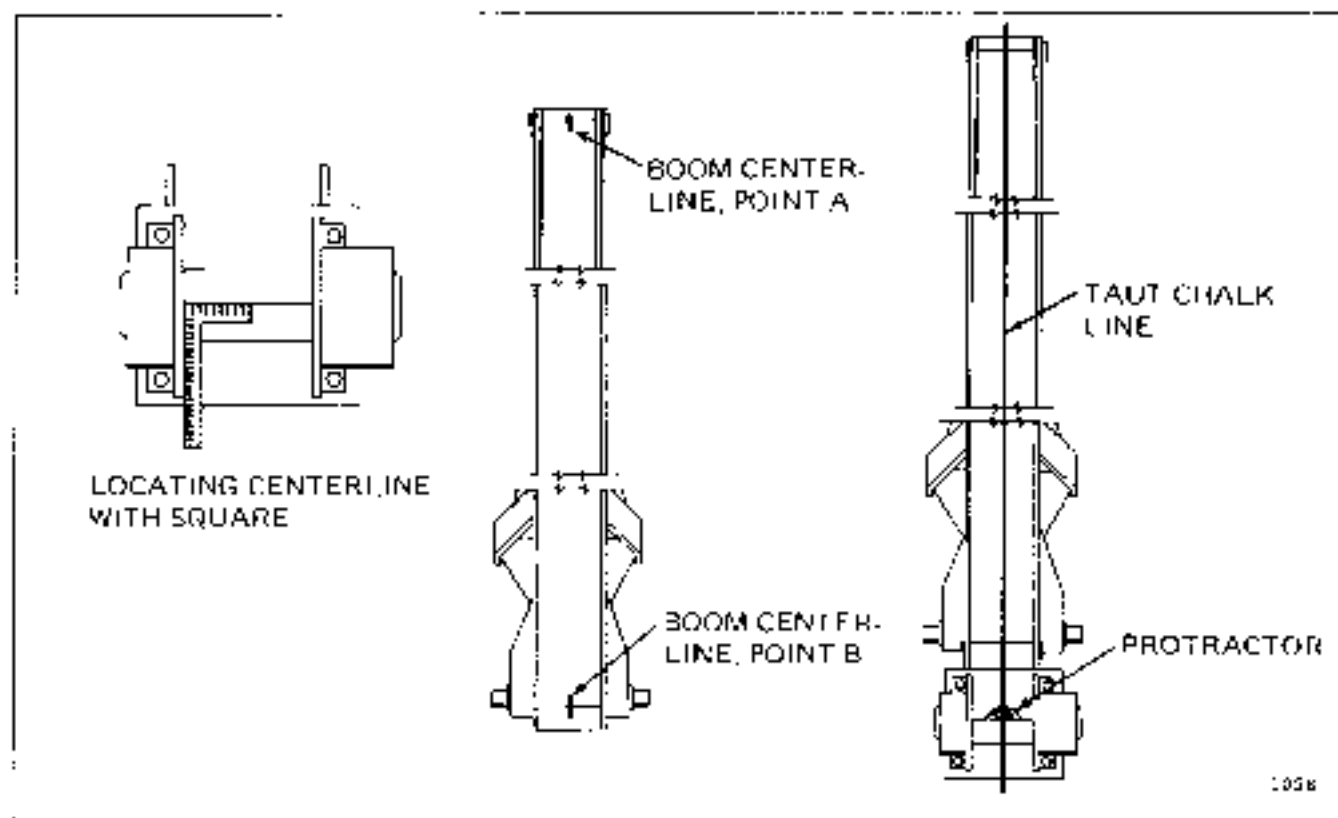

Figure 3-36. Hoist Mounting Alignment
IF THIS SPECIAL EQUIPMENT IS NOT AVAILABLE, SUFFICIENT ACCURACY IN LOCATING A CENTERLINE MAY BE OBTAINED BY USING A STEEL SQUARE AGAINST THE MACHINED INNER SURFACES OF BOTH FLANGES. IT IS ADVISABLE TO AVOID USING ANY CAST SURFACE IN THIS PROCEDURE UNLESS A CHECK FROM BOTH FLANGES INDICATES THAT THE RESULTANT LINE IS STRAIGHT. (FIGURE 3-36.)
3. Find the midpoint of lines drawn across top of base boom section, perpendicular to its length, at both ends of the boom section. (See Figure 3-36, points A and B.)
4. Check as follows to see if hoist is aligned perpendicularly to boom. (See Figure 3-36.)